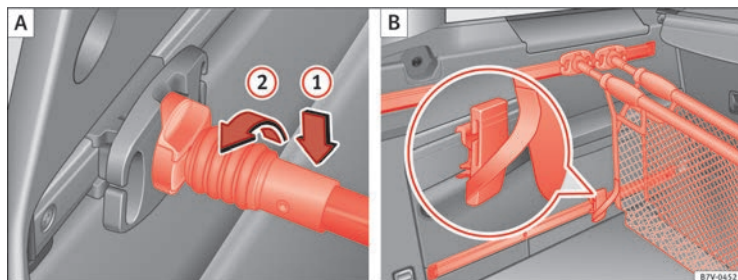

Fig. 97 Hook the baggage net (A) and use it as a bag (B)
Place the attachment rod on the baggage net support ⇒ Fig. 97 ① and rotate 90° to the left ②. The red mark on the attachment rod should not be visible ⇒ **⚠**.